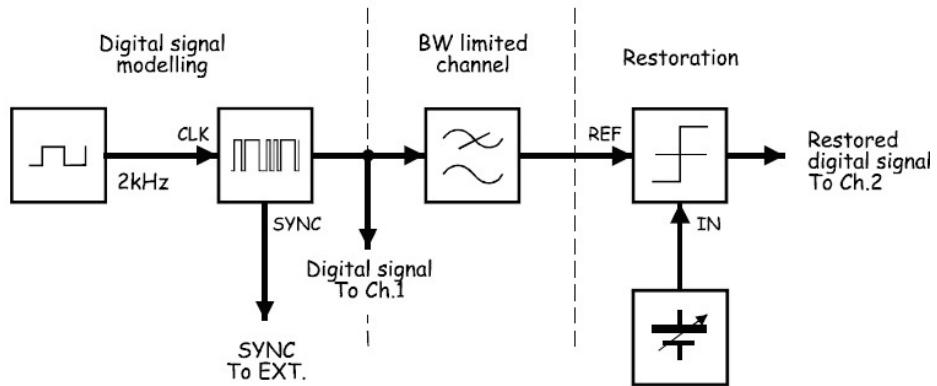

Figure 25: Restoring digital signals using a comparator.
- Modify the setup as shown in Figure 25.